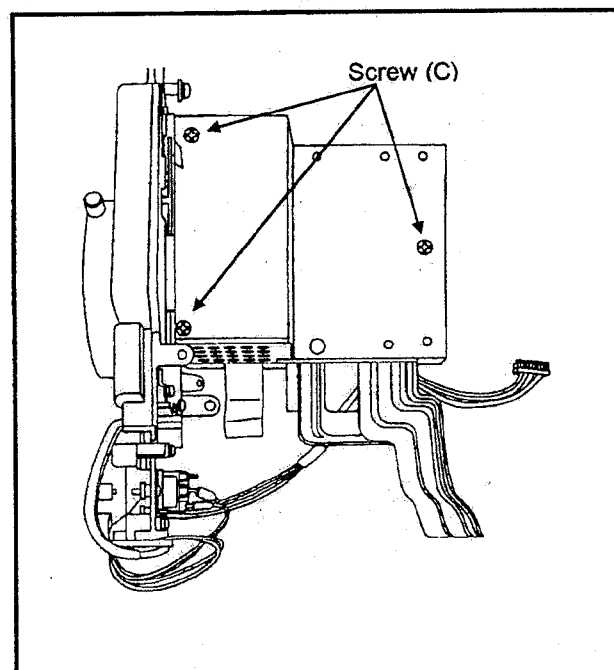

Fig. CCD3
5. Unscrews 3 screws (C) on the shield case of CCD unit and remove the shield case. (Fig. CCD3)